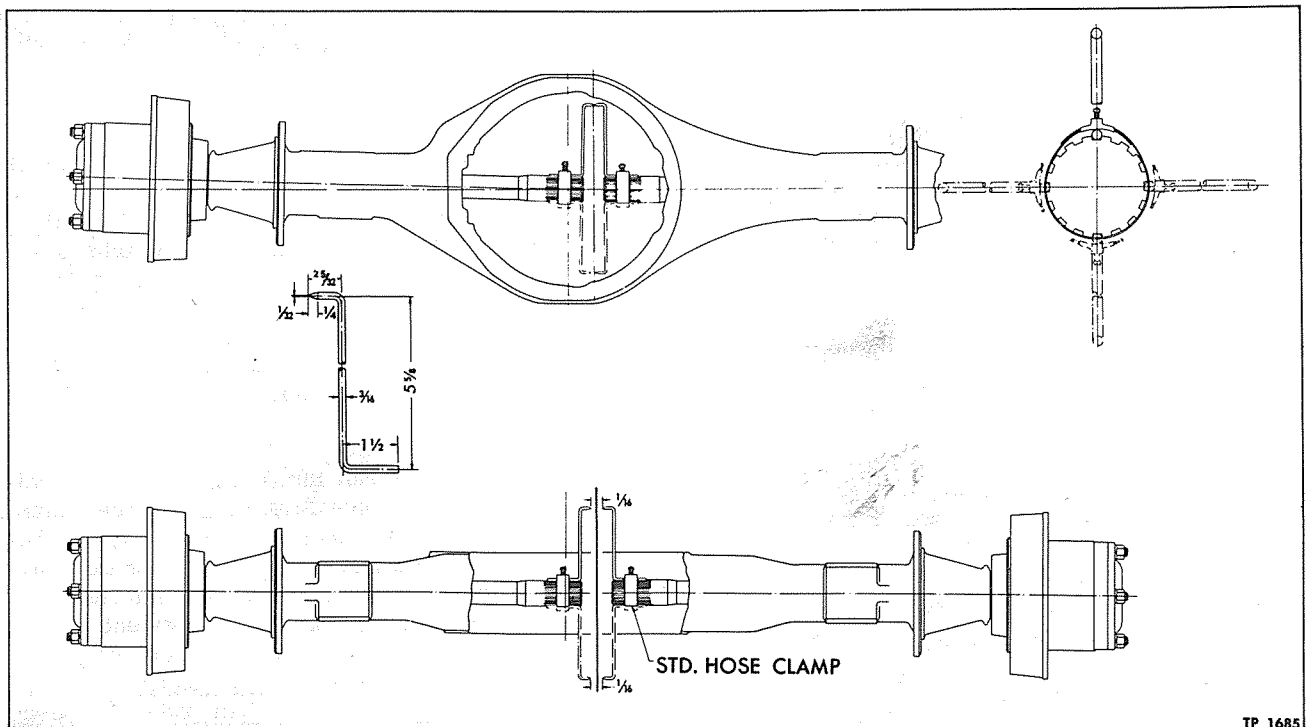

Figure 5—Housing Alignment Check
3. Indicators, as shown in figure 5, may be made locally from welding or drill rod ($3/16"$ diameter) to dimensions shown. Make certain that burrs on axle shaft splines have been removed. Install indicators in place as shown in figure 5. Radiator hose clamps of suitable diameter may be used to secure indicators in position.
4. Each indicator must be positioned at right angle to its respective axle shaft after it is secured in place. Both indicators must be in alignment with each other. There should be a slight gap between the points as shown in figure 5. Insert a feeler gauge or measure gap between the indicator points, and make note of this dimension.
5. Place both indicators in alignment, then rotate both shafts simultaneously. Make a check of the gap dimensions between the indicators at four points 90 degrees apart, as shown in figure 5. If the gap at each point exceeds original predetermined gap by more than $1/16"$, axle housing is bent and should be straightened or replaced.